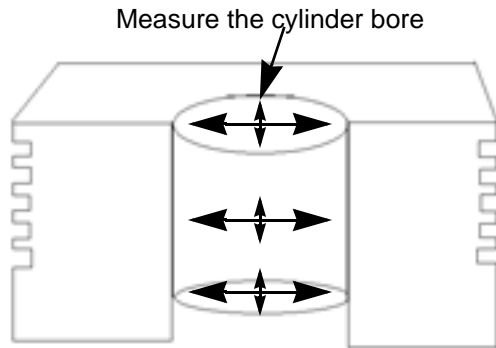

Figure 10.16
**NOTE:** Take two measurements of the cylinder bore 90 degrees apart at the top, bottom and middle of the cylinder. See Figure 10.16.